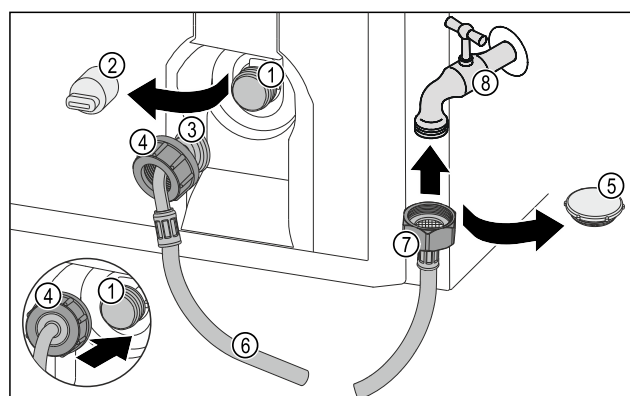

Fig. 23
- Remove the closure cap Fig. 23 (5).
- Place the straight end of the hose Fig. 23 (7) on the tap Fig. 23 (8).
- Tighten the nut at the straight end of the hose Fig. 23 (7) in a clockwise direction.